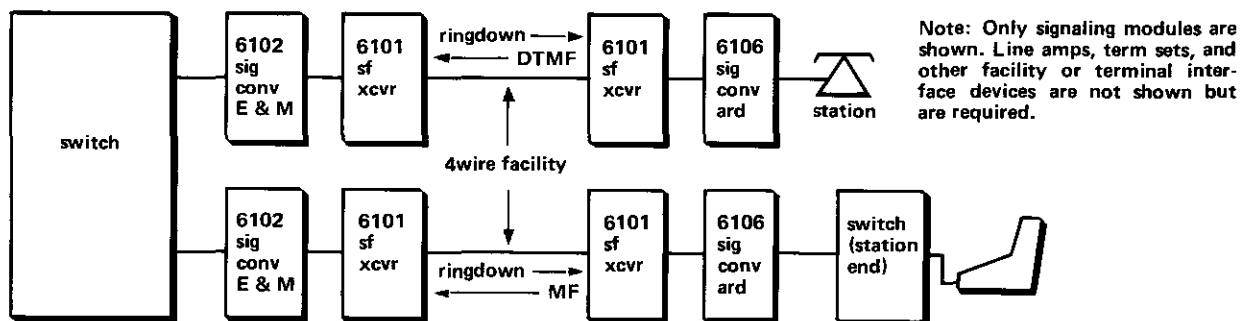

figure 3. Special one-way ringdown applications of 6106
used in the special one-way ringdown applications depicted in figure 3. These applications require multifrequency (MF) or dual tone multifrequency (DTMF) pulsing in the outgoing (from the station end) direction and ringdown operation in the incoming (toward the station end) direction. Applications of this type are usually found in multipoint, dial-accessed data systems. The interface equipment at the switching end usually consists of conventional E and M signaling converters and sf signaling modules (such as Tellabs' 6102 and 6101, respectively).